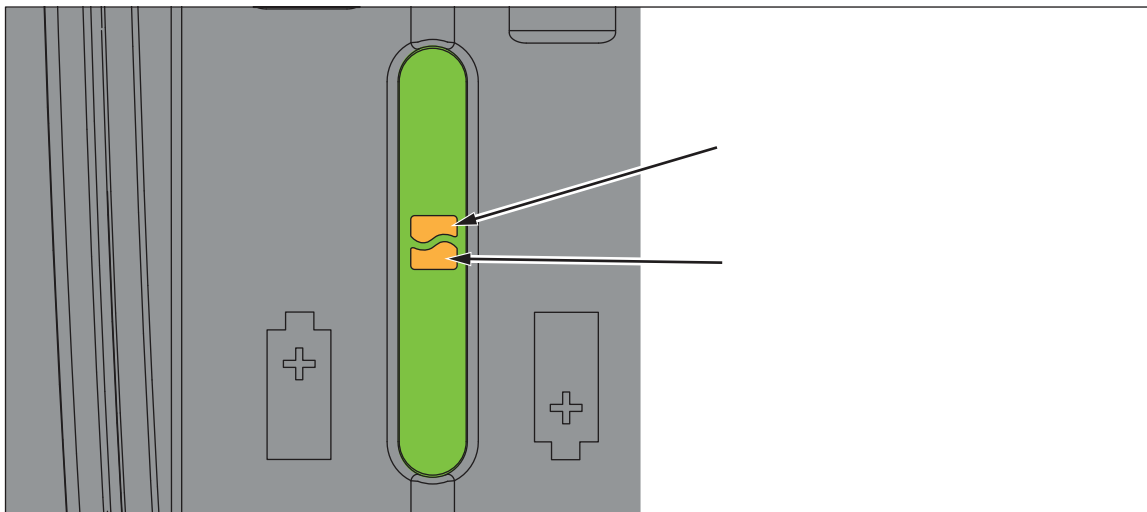

Figure 4. Calibration Activation
7. Use a small jumper to short the two pads under the calibration sticker. See Figure 4.